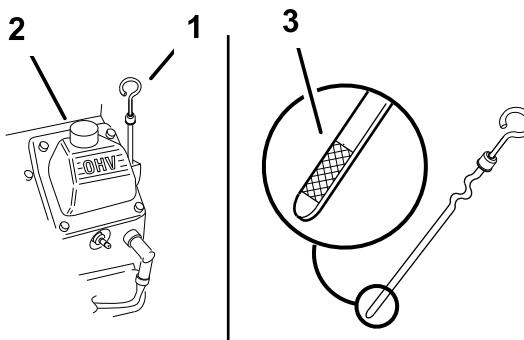

Figure 37
5. Unscrew the oil dipstick and wipe the end clean (Figure 37).
6. Slide the oil dipstick fully into the filler tube, but do not thread onto tube (Figure 37).
7. Slowly pour approximately 80% of the specified oil into the filler tube (Figure 37).